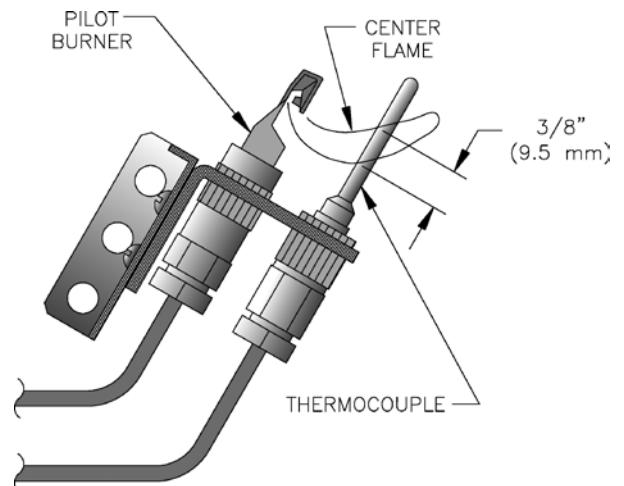

Figure 8: 24-Volt Continuous Ignition System, Honeywell Q314 Pilot Flame
4. Check pilot burner flame through observation port. See Figures 8 through 11 for appropriate pilot burner illustration. The center flame should be steady, medium hard blue enveloping 3/8 to 1/2 inch of thermocouple. If flames are yellow and lazy, follow instructions TO TURN OFF GAS TO APPLIANCE (see appropriate Figure as listed in Table 1) and contact qualified service agency.